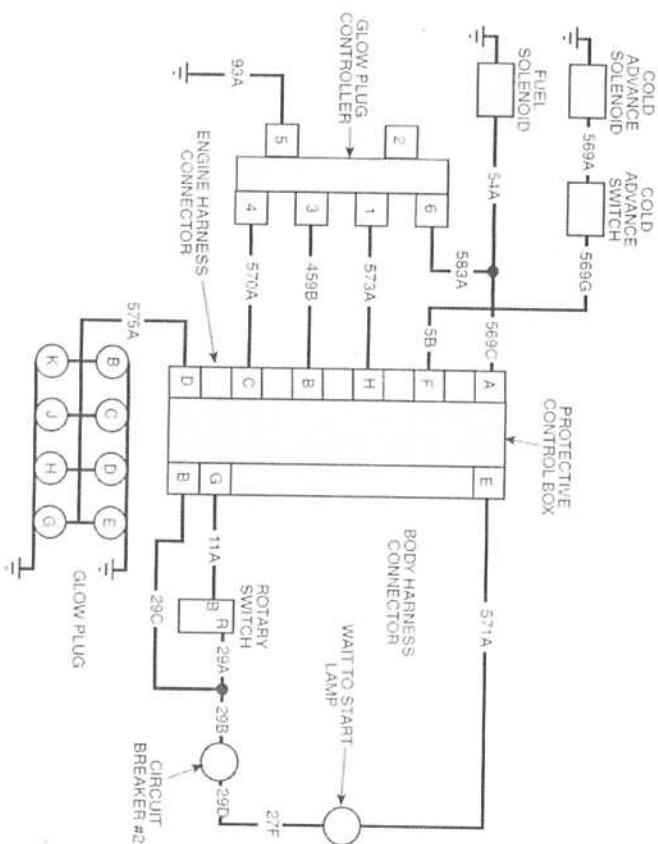

Figure 8-3. Glow Plug System Testing.
D. 6.5L Diesel Engine Glow Plug System (Figure 8-3 Thru 8-5)